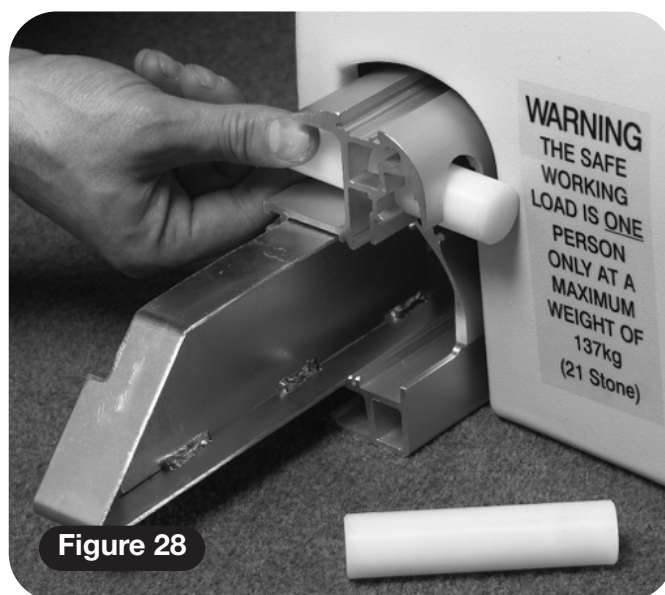

Figure 28
- 7 Insert the plastic locking studs into the loading bar **(Figure 28)**.